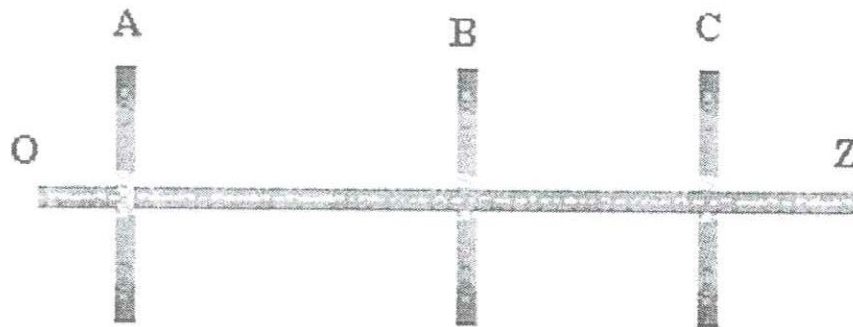

Figure Q2(b): A rigid rotor
- ii) A rigid rotor shown in Figure Q2(b) carries three thin discs A, B, and C with diameters d_1 , d_2 , and d_3 and masses m_1 , m_2 , and m_3 respectively. The discs are mounted on an L long shaft. Take $OA=L_1$, $OB=L_2$, $OC=L_3$. All are in SI units. Derive mathematical expressions to be satisfied to achieve complete mechanical system balance stated in above b) i).
- c) Given that the rigid rotor shown in Figure Q2(b) has following dimensions, $OA = 50$ mm, $OB = 600$ mm, $OC = 850$ mm and the shaft length is 1 m, and properties as given in Table Q2(b). Further, it is given that the rotor is suspended from a bearing at O with the other end unrestrained. Calculate,